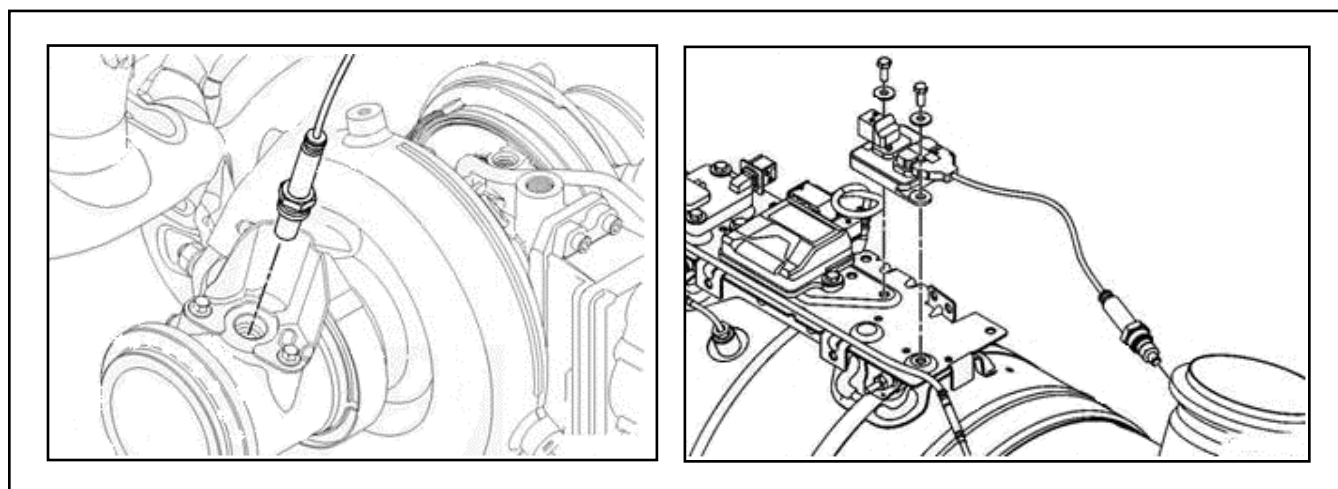

Figure 3 - Typical View of NOx Sensors Location
- 1.5. Locate the two NOx sensors on the turbocharger and the selective catalytic reduction (SCR) area in the upper streetside of the vehicle (see Figure 3).